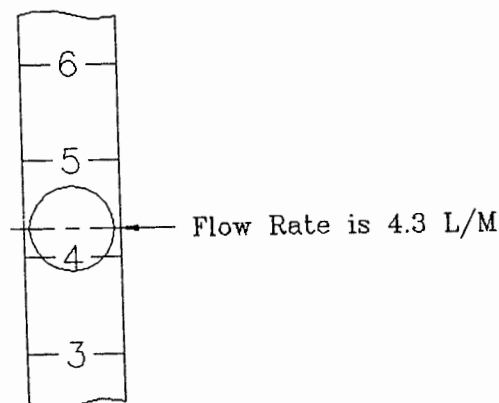

Figure 32
5. **Nitrous Oxide and Oxygen Flowmeter Tubes** - The amount of gas flowing is indicated by reading the mid-point (maximum diameter) of the ball (see fig 32)